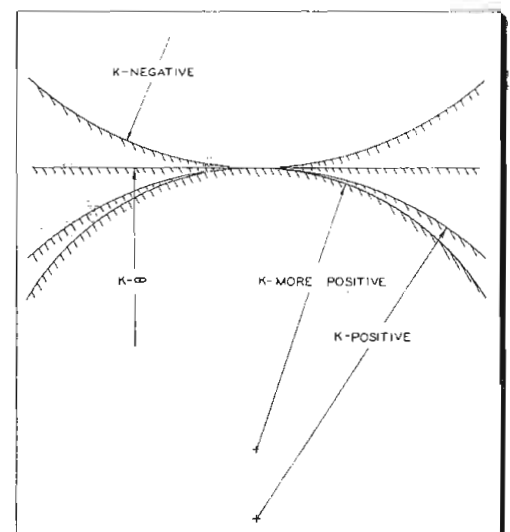

Fig. 6: Effective curvature of the earth
Why do we have this fading? It is due to the air not being homogeneous. If you pass from a medium of one density to a medium of a different density the radiation does not follow a straight line but is "bent." The air density is a function of the temperature and with rapidly varying temperatures accompanied by little air movement a marked stacking into layers takes place. This bending may cause the radio paths to follow the earth curvature or to be bent toward the upper atmosphere. Instead of considering the radius of curvature of the path followed by the radio waves it is possible to establish an effective radius of curvature for the earth which would exist for the same propagation conditions and if the radio path was a straight line. This effective earth's radius is called  $K\rho$  where  $\rho$  is the true earth radius and  $K$  is a factor varying from -1 to infinity.  $K$  equal to infinity would then be a flat earth whereas a  $K$  equal to -1 would be a saucer effect (Fig. 6).
Fig. 6: (A) Main FM channel with 1-KC modulation, but no multiplexing. (B) Subcarrier with 1-KC modulation, no main channel modulation. Combination of two produces complex waveshape